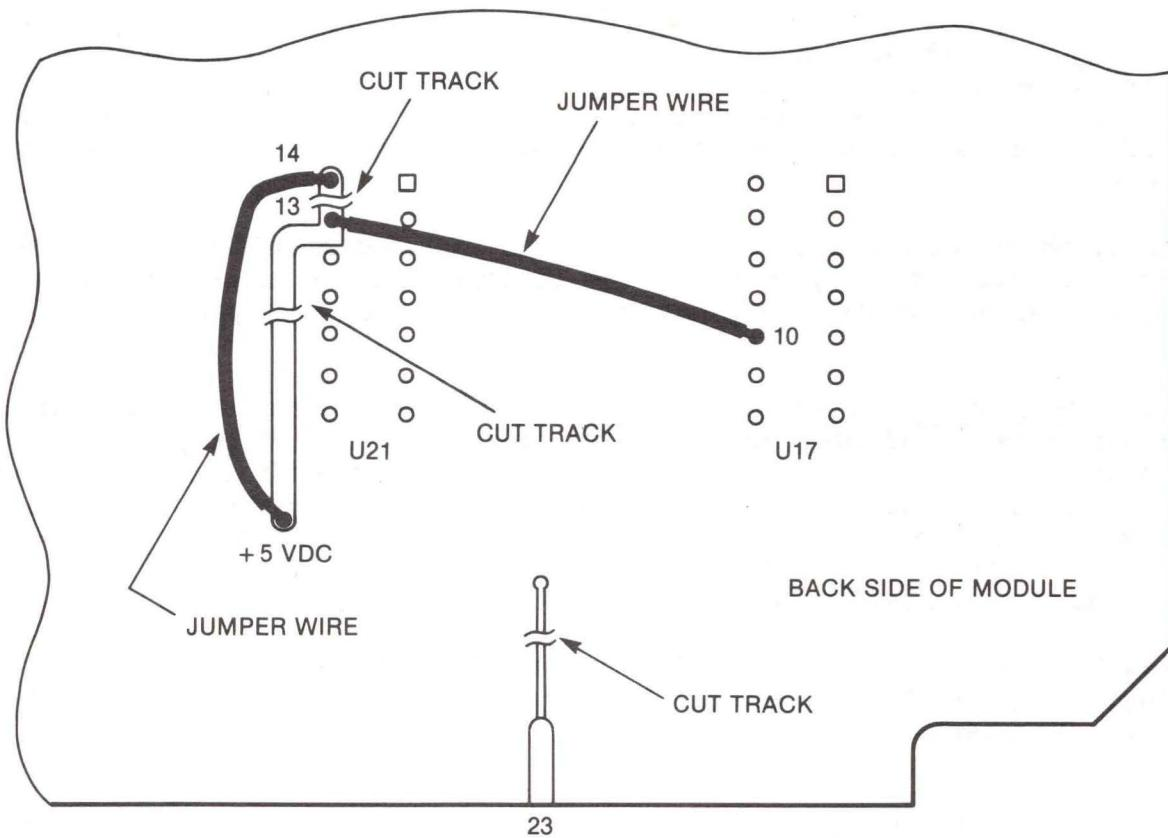

FIGURE E-6. USE Modification for 16K Dynamic RAM Module (MEX6816-1)
E.2.2.4 16K Dynamic RAM Modules (MEX6816-1). The early 16K Dynamic RAM Module (MEX6816-1) requires modification before use in an M6809 EXORciser. These modules generate an Activate (ACT) signal on pin 23. This signal has been redefined in the M6809 EXORciser as Bus Status (BS). It is necessary to disable one of these signals in order to avoid damage to either module. The recommended modification is to disable the ACT signal on the 16K Dynamic RAM Module because it is used on only the MEX68RR EROM/RAM Module. To disable the ACT signal, cut the ACT signal track (pin 23) above the finger on the module edge connector (Figure E-6).
- Remove +5 Vdc connection from U21 pin 13 by cutting the tracks between pins 13 and 14 and between +5 Vdc and pin 13, as illustrated in Figure E-6.